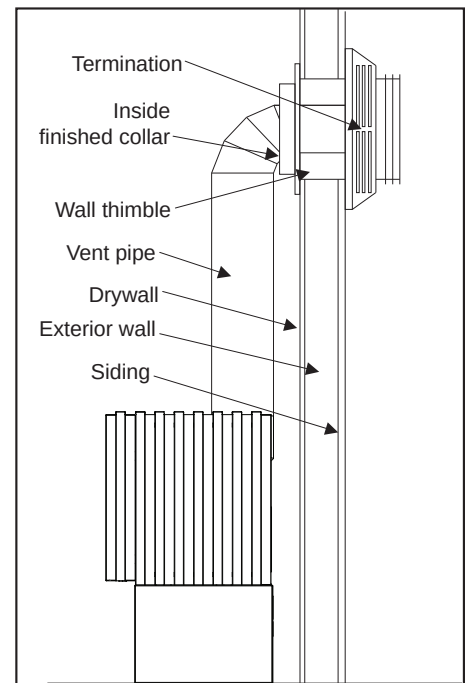

Figure 54: Installation for Top Vented; Horizontal Termination.
4. After a minimum of 10 minutes operation, test the chimney draft with a smoke match at the top row of the pattern to confirm that there is adequate draft or 'pull' at the openings around the body of the Drafhod Adaptor, as shown in Figure 54.